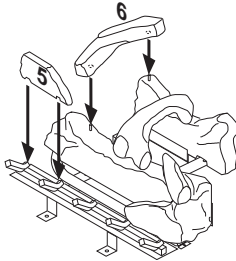

Figure 22 - Installing Logs #5 and #6 (CD36M-A Series Shown)
5. Place log #5 (small front log) onto the front left part of grate making sure notches fit over prongs of grate (see Figure 22).
6. Place log #6 onto two pins on left side of back and front logs (see Figure 22).